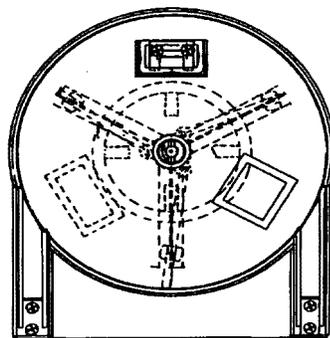

Figure 1-7. Flush Watertight Scuttle
- g. Flush Watertight Scuttles. (See figure 1-7.) These scuttles are installed in areas such as flight decks, cargo decks, hangar decks, passageways, or areas of relatively high traffic where a flush deck condition is required to eliminate tripping hazards or to maintain a smooth trucking surface. Trough drains are required for flush scuttles in weather decks.